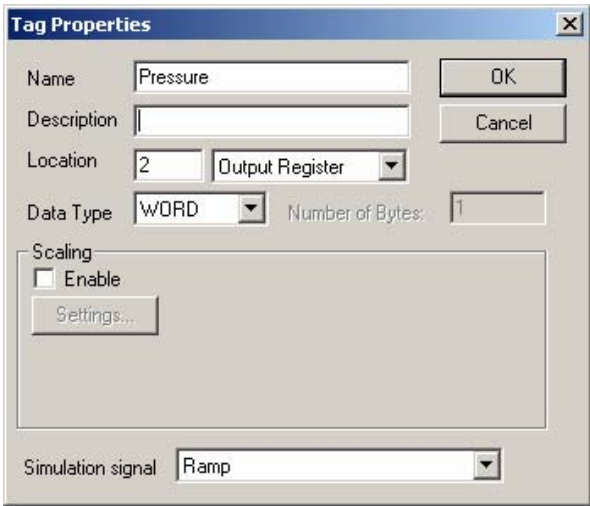

Figure 5 - Pressure Tag Properties
14. Give the tag a name and configure the tag with its properties. You can configure your tag similar to the properties shown in Figure 5.